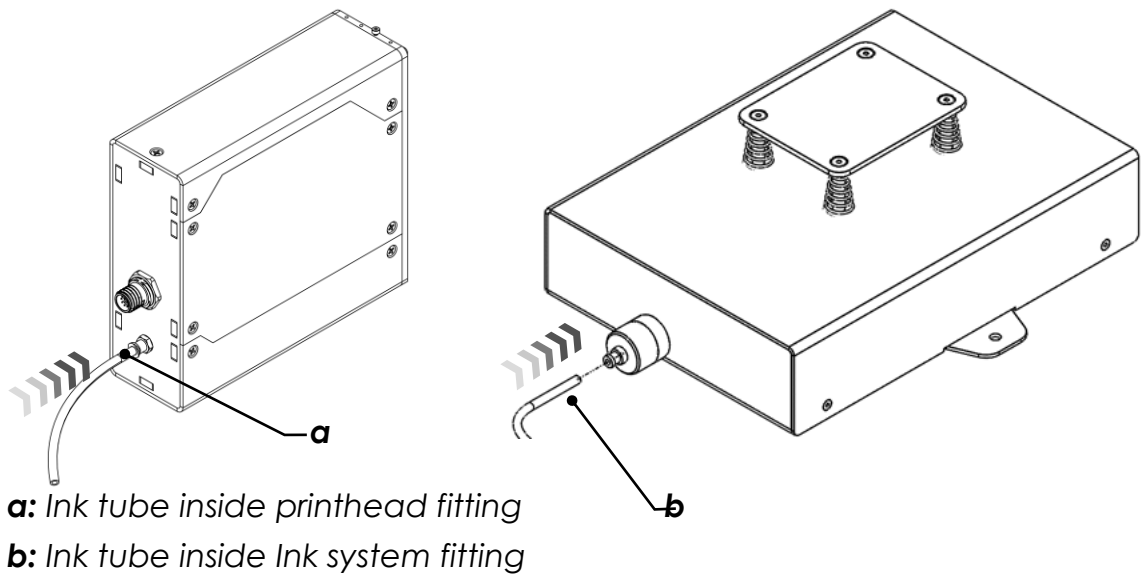

Figure 9
- Insert one end of the ink supply tube in the fitting located at the back of the printhead and press firmly into place (see Figure 9).